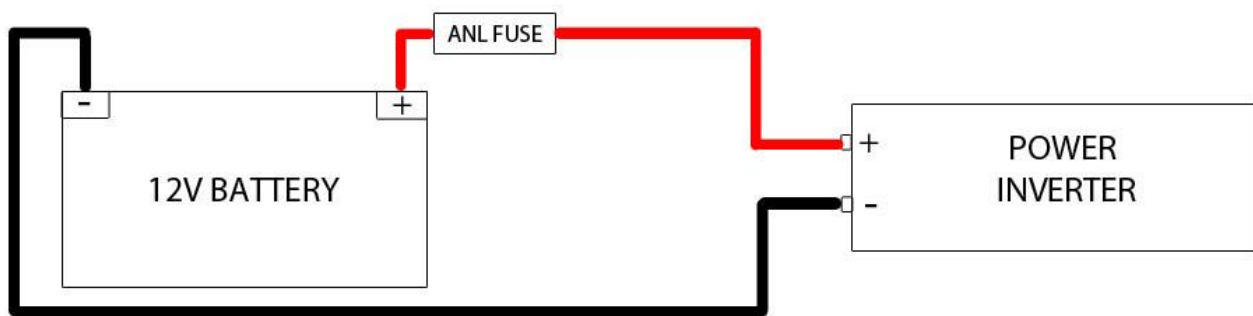

Figure 1
1. Using the included cables, directly connect the inverters (-) and (+) terminals to your automotive batteries respective (-) and (+) terminals, (See Figure 1 below). The cables should be bolted to the battery clamps for a solid connection (do not use jumper cables for installation). We recommend using an ANL inline fuse or circuit breaker (not included). The ANL fuse or breaker should be as close to the battery as possible, installed on the positive (+) cable. Please refer to the specifications table on page 1 for recommended wire sizes and fuse/breaker sizing. NOTE: There will be a spark between the cable from the negative terminal of the inverter when it is first connected to the negative terminal of the battery